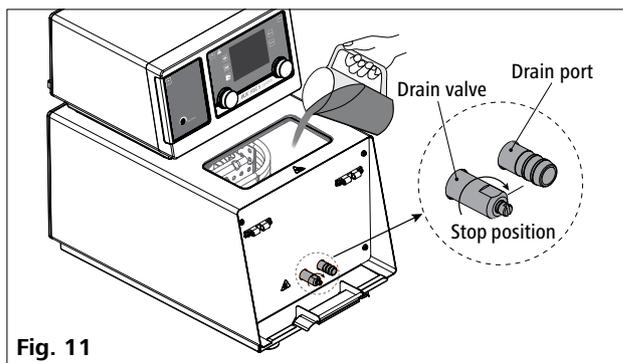

Fig. 11
- Check and make sure that the drain valve is closed (the stop position in clockwise direction, see Fig. 11).